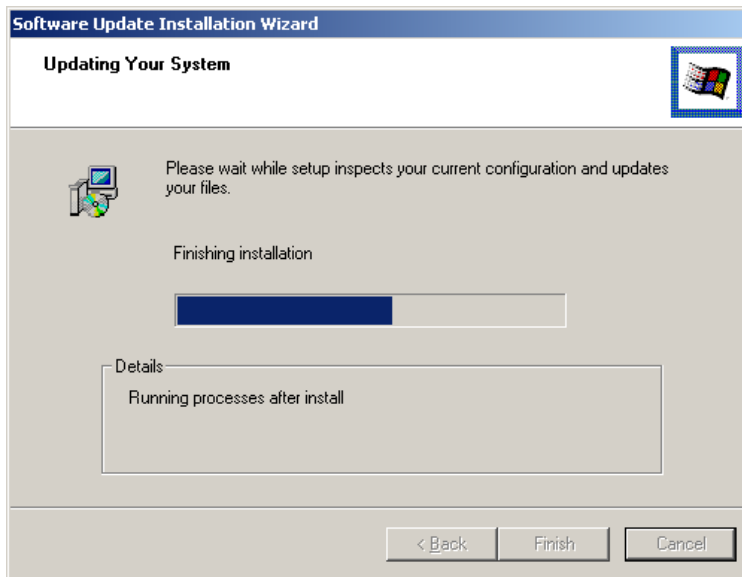

Figure 6-23: Installation Wizard Updates the System
Step 9: The Installation Wizard updates the system as shown in **Figure 6-23**.